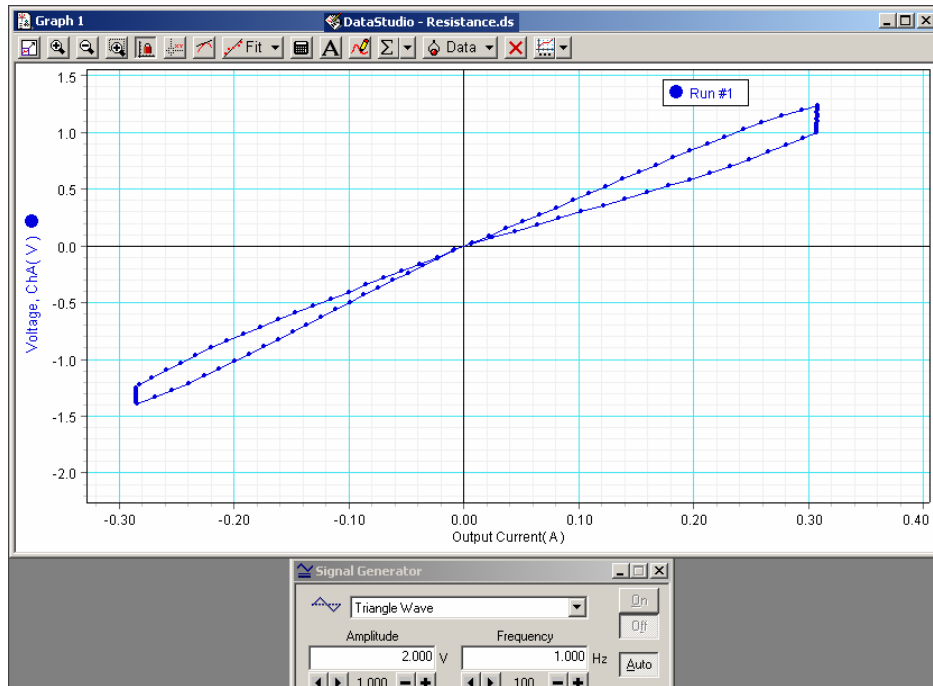

Figure 4: DataStudio display of Voltage vs. Current for a non-ohmic bulb filament
12. Delete the “Linear Fit” dialog box. Click “Start” and observe the data display similar to Figure 4. Print and submit one copy of the graph display. Use the “Scale-to-fit” button to adjust the display, if necessary.
7. Briefly explain why the slope of the V/I graph in Figure 4 is not symmetric for the light bulb filament. Recall that the voltage amplitude from the signal generator varied between -2 V and +2 V.